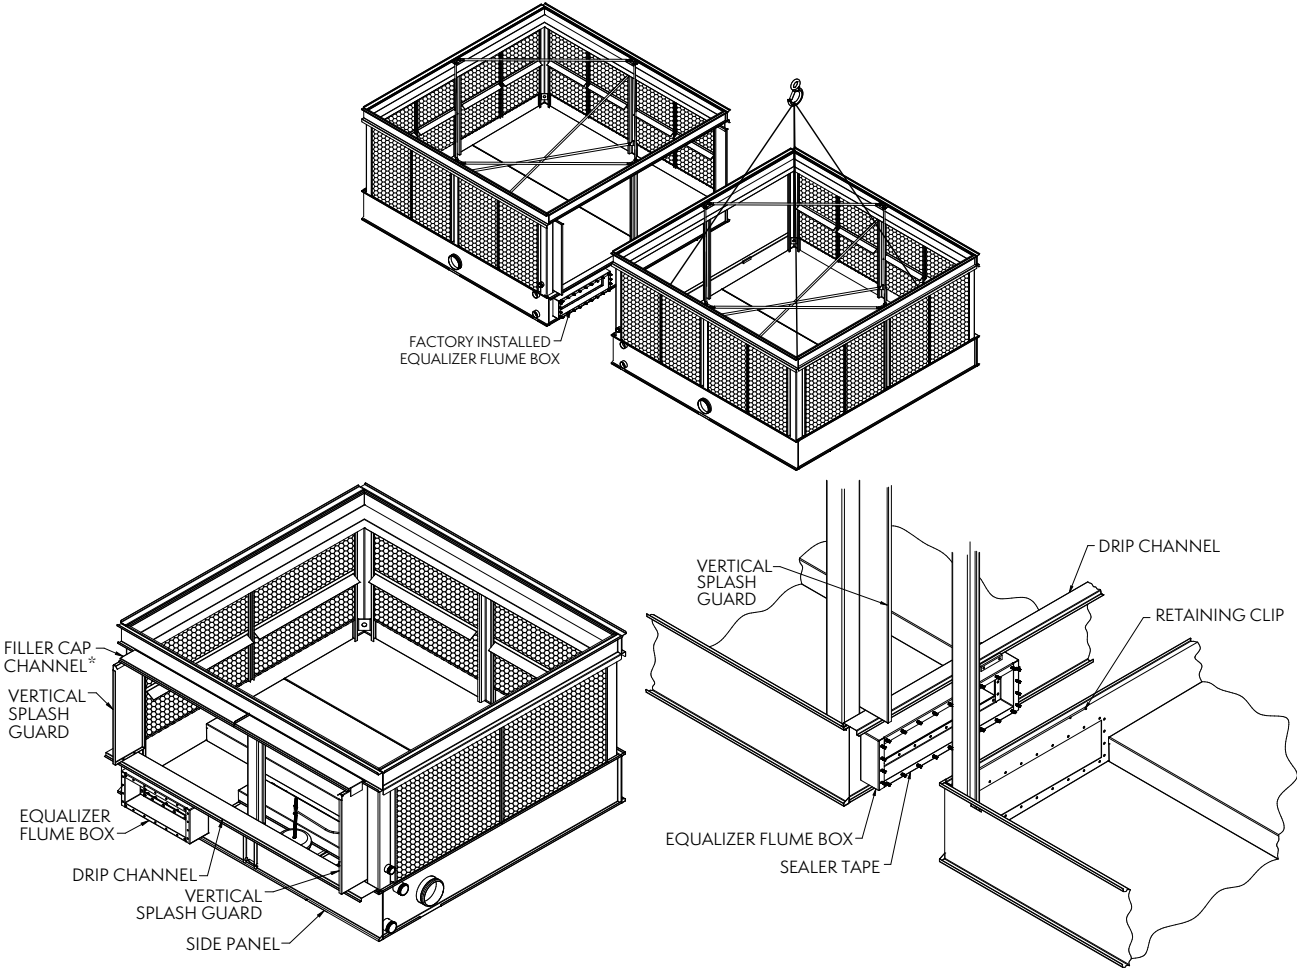

Figure 3a — Joining Bottom Sections - Multi Cell Units
10. Place the vertical splash guard in the bend of the vertical supports. On galvanized units, attach the vertical splash guard using 5/16" (8mm) self-tapping screws. On stainless steel units, attach the vertical splash guards using 5/16" (8mm) stainless steel nuts and bolts. (See **Figure 3a**)